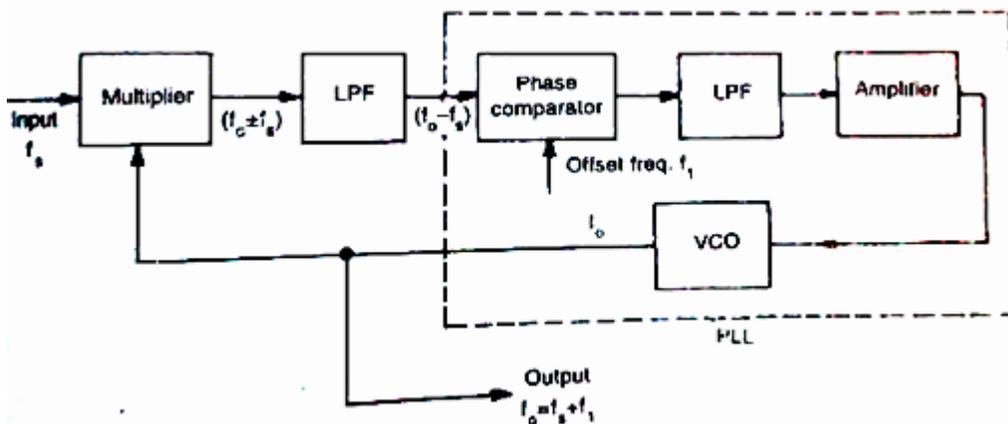

Figure 30: PLL used as a frequency translator
- Figure 30 gives the block diagram of a frequency multiplier using PLL.
- Figure 30 shows FSK demodulator using PLL for teletype - typewriter signals of 1070 Hz and 1270 Hz.